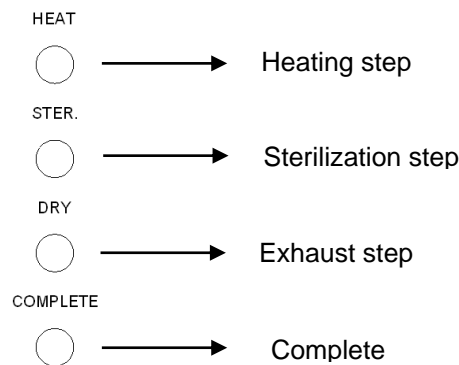

Figure 24
- Turn the “Liquid Sterilization” switch to ON(I) position for liquid sterilization, see “5.2.3.3 Control Panel – Liquid Function (optional)” for reference.
F.5 Press the START Button. The current progress of the sterilization cycle is indicated on the Process Status Indicator. (Figure 24)